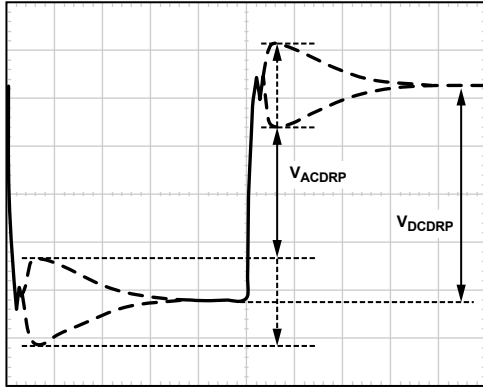

Figure 41. AC Load Line Waveform
- The resulting waveform will be similar to that shown in Figure 41. Use the horizontal cursors to measure V_{ACDRP} and V_{DCDRP} , as shown in Figure 41. Do not measure the undershoot or overshoot that occurs immediately after the step.